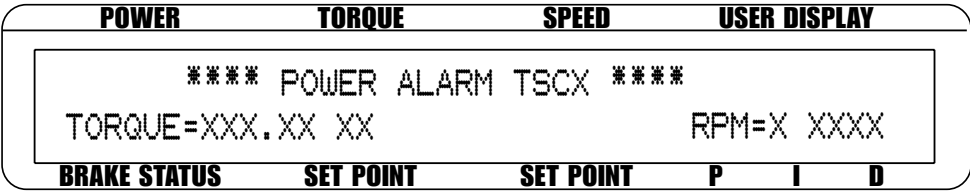

Figure 5-7 Power Alarm Display
- B. If power is greater than 120% of the maximum power setting or in condition A for greater than 5 seconds, the display will flash “POWER ALARM TSCx” (as indicated in Figure 5-7) The alarm relay will open, excitation current will hold at last value for 3 seconds then drop to zero. Standby signal is not cycled.